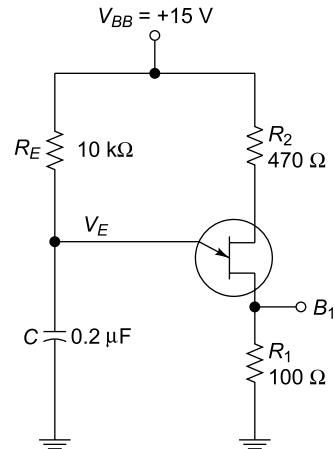

Fig. 3.33 Relaxation oscillator
- (b) The *relaxation oscillator* is an oscillator using UJT which can generate sawtooth waveform. The UJT relaxation oscillators store energy in a capacitor and then dissipate that energy repeatedly to set-up the oscillations. For example, the capacitor can be charged toward a positive power supply until it reaches a threshold voltage sufficiently close to the supply. When the capacitor reaches each threshold, capacitor can be quickly discharged due to short. In all such capacitor-based relaxation oscillators, the period of the oscillations is set by the dissipation rate(s) of the capacitor. The UJT relaxation oscillators consist of a UJT, capacitor C which is charged through resistance R_E . Figure 3.33 shows the UJT relaxation oscillator.